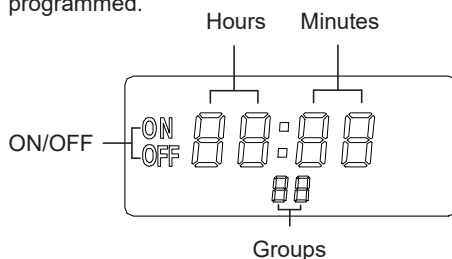

Figure C-8: Programming screen
- After completing the system time setting, press "SET" to begin programming the ON/OFF periods for the DHW cylinder immersion heater. Refer to Figure C-8. Firstly, the LCD screen will display "- - : 0 0" in the hours and minutes area, "ON" in the "ON/OFF" area and "01" in the Groups area. The default display "- - : 0 0" means no ON/OFF periods have yet been programmed.
Press "SET" when the desired minute for this "ON" period to begin has been chosen. "OFF" will now be displayed in the "ON/OFF" area shown in Figure C-8 and the hours will start to flash. Use the "+" and "-" buttons to set the hour from 00 to 23.